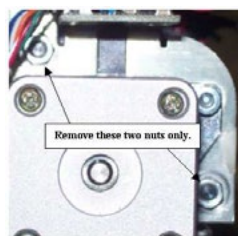

Figure 3 - Thread Feeder Assembly, Left Bracket
- Loosen the two nuts on the left side at the end of the long bolts as shown in Figure 3 above.